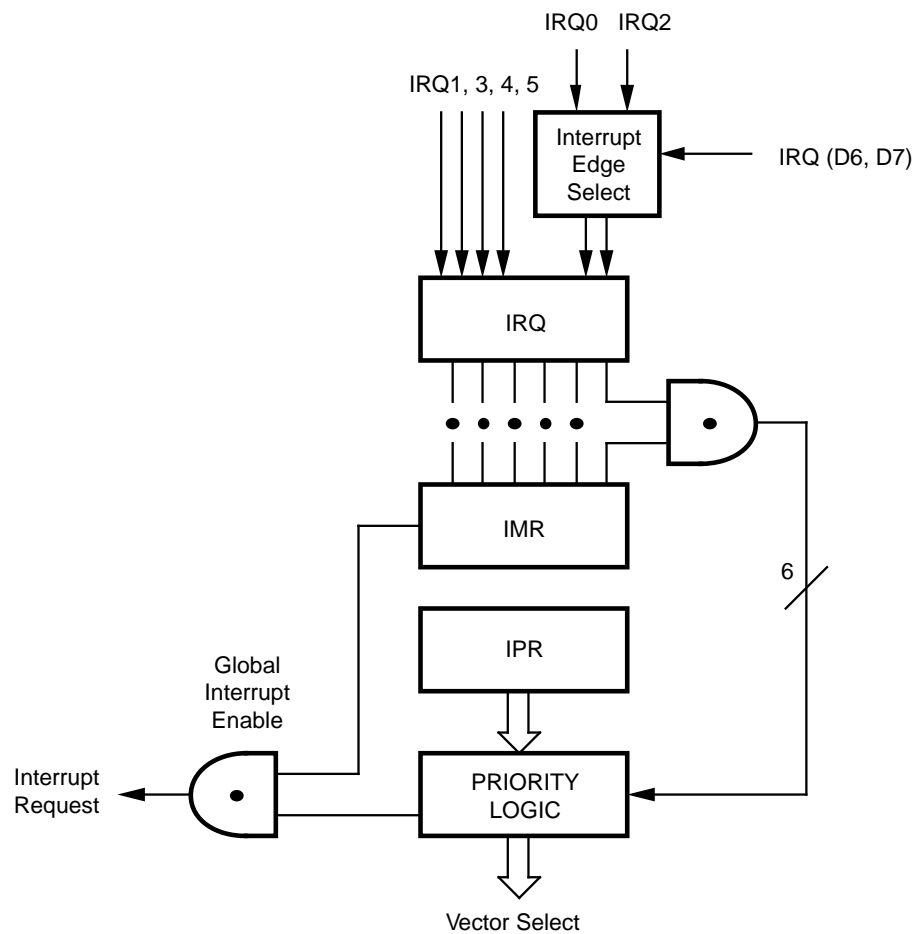

Figure 20. Interrupt Block Diagram
**Interrupts.** The Z8 has six different interrupts from six different sources. These interrupts are maskable, prioritized (Figure 20) and the six sources are divided as follows: four sources are claimed by Port 3 lines P33-P30, and two in counter/timers (Table 10). The Interrupt Mask Register globally or individually enables or disables the six interrupt requests.